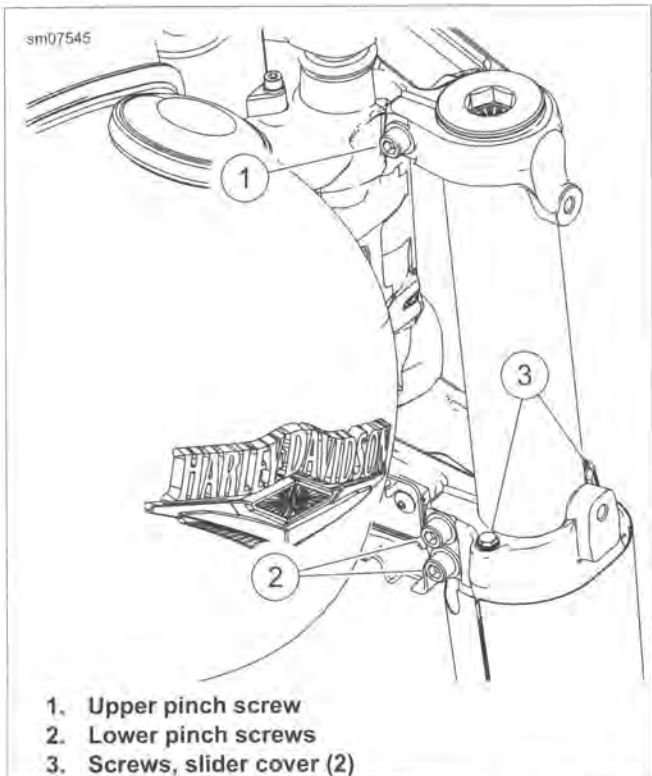

Figure 2-62. Front Fork Attachment
5. See Figure 2-62. Loosen upper pinch screw (1) but do not remove.